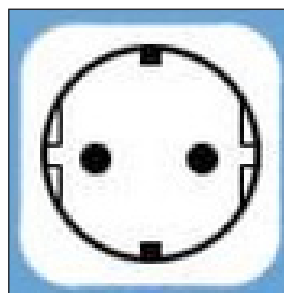

fig. 18 - Schuko socket
- a Schuko wall socket with ground and separate protection is required (fig. 18);